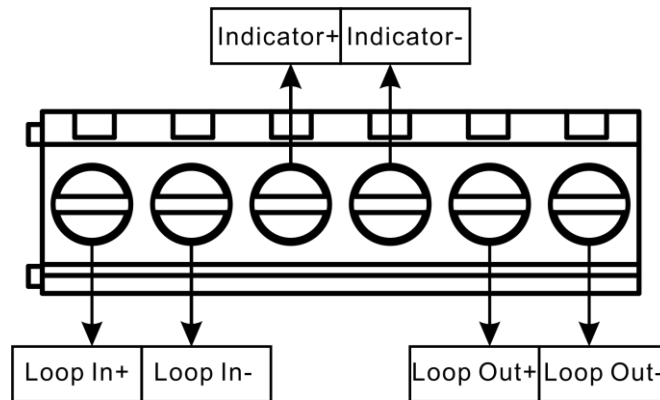

Fig. 2 Isolator base and wiring diagram
2. Wires from the base of the center hole penetration, and connected to the corresponding terminals. Fig.2 shows a schematic base terminal.